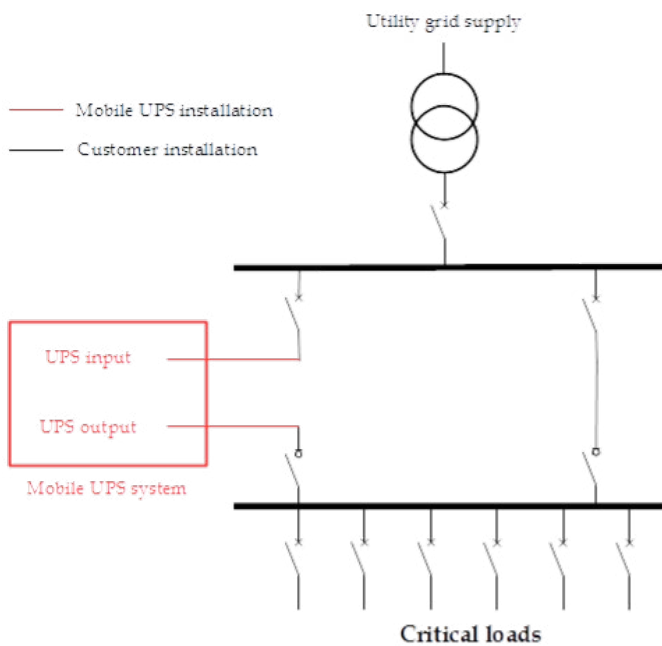

Figure 4: Preferred company installation for MUPS integration
- Available electric panels (see Figure 4 for an example of the required electrical installation):